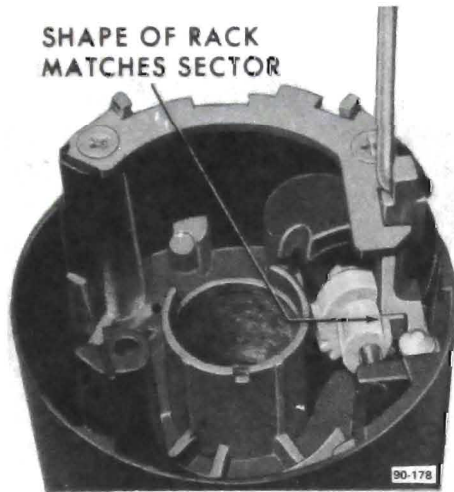

Figure 90-125 - Rack and Lock Bolt Assembled to Sector
5. Insert the rack and lock bolt into the housing from the bottom with the teeth up (toward steering wheel) and toward the centerline of the column. See Figure 90-125.